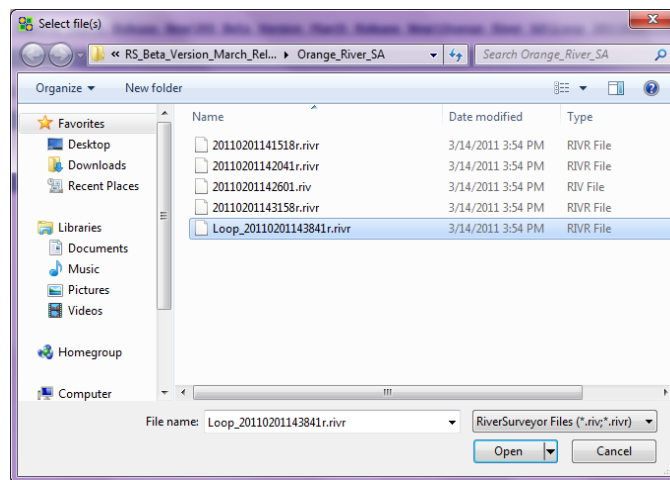

Figure 182. Loop Correction File
3. Open the associated Loop Method file by clicking on the **LC** icon located on the top tool bar. Select the appropriate file associated with the regular discharge measurements to be processed. For data collected using firmware v1.50 or later, the loop file name will begin with the word “Loop_” as shown in Figure 182. For loop measurements made with earlier firmware versions, the file name will begin in the same format as the regular discharge measurements. It should be noted, this is the only way you can load a Loop Method file.